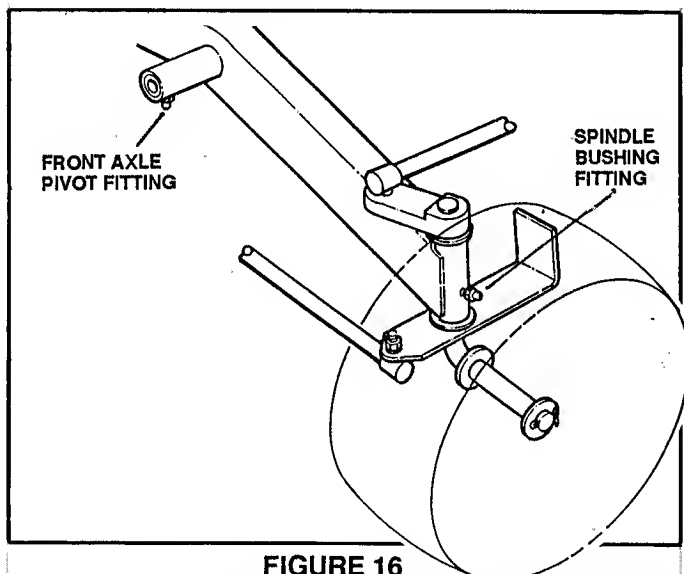

FIGURE 16
- **FRONT AXLE PIVOT & SPINDLE BUSHINGS:** Lubricate the center pivot fitting on under-side of the front axle and each spindle fitting located on rear of front axle (toward operator). See Figure 16.